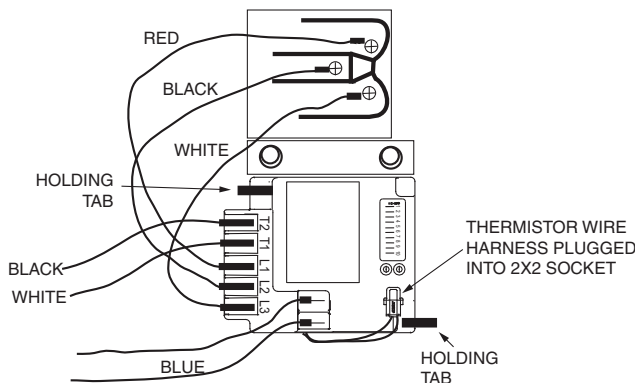

Fig. 66 — CoreSense Communication Module Mounting
3. Install the CoreSense module in the compressor terminal box as shown in Fig. 66, with the tabs holding the module in place. Route the thermistor wire harness as shown and plug the harness into the 2x2 socket on the CoreSense module.